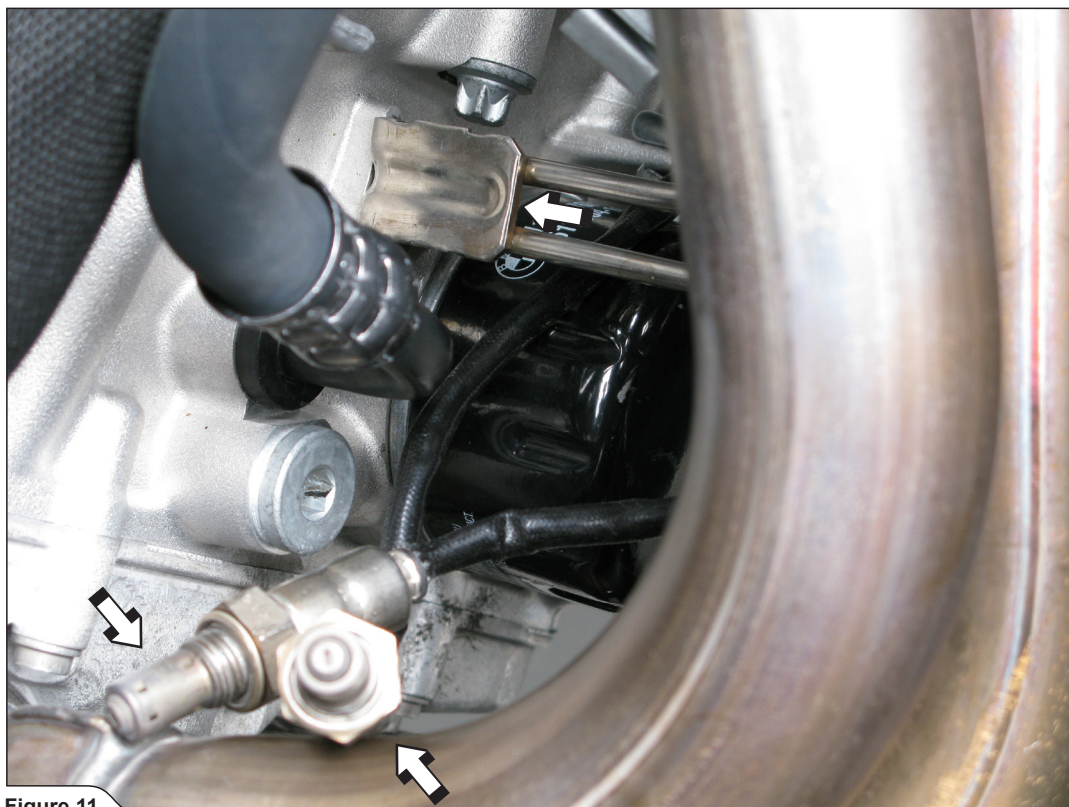

Figure 11
8. Unscrew the radiator's bracket off the engine block and both lambda sensors (Figure 11).